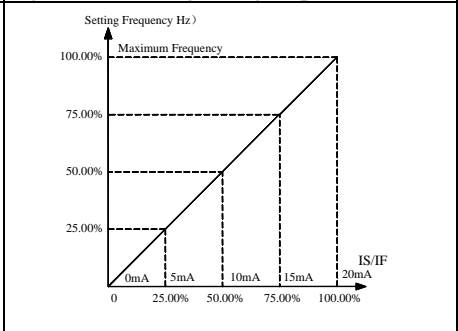

Figure 7-28 Analog Current Input 0~20mA
**F8-00 hundreds place=1**, the linear range of terminal IS voltage input: 0~20mA=0~100%. See Figure 7-28.
**F8-00 thousands place=1**, the linear range of terminal IS voltage input: 0~20mA=0~100%. See Figure 7-28.